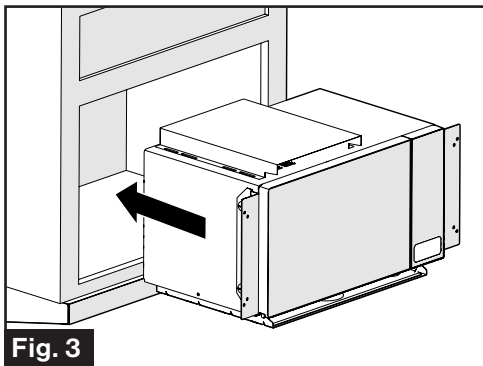

Fig. 3
3. Slide the microwave oven into the cabinet opening. (Fig. 3)